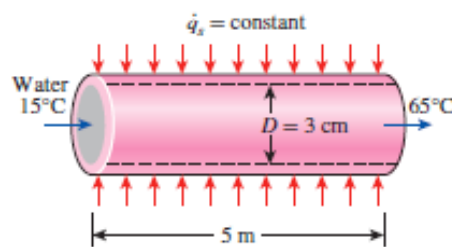

Figure 3
- b) Water is to be heated from  $15^{\circ}\text{C}$  to  $65^{\circ}\text{C}$  as it flows through a 3 cm-internal-diameter 5 m long tube (Figure 3). The tube is equipped with an electric resistance heater that provides uniform heating throughout the surface of the tube. The outer surface of the heater is well insulated, so in steady operation, all the heat generated in the heater is transferred to the water in the tube. If the system is to provide hot water at a rate of 10 L/min, determine the power rating of the resistance heater. Also estimate the inner surface temperature of the tube at the exit. **10**